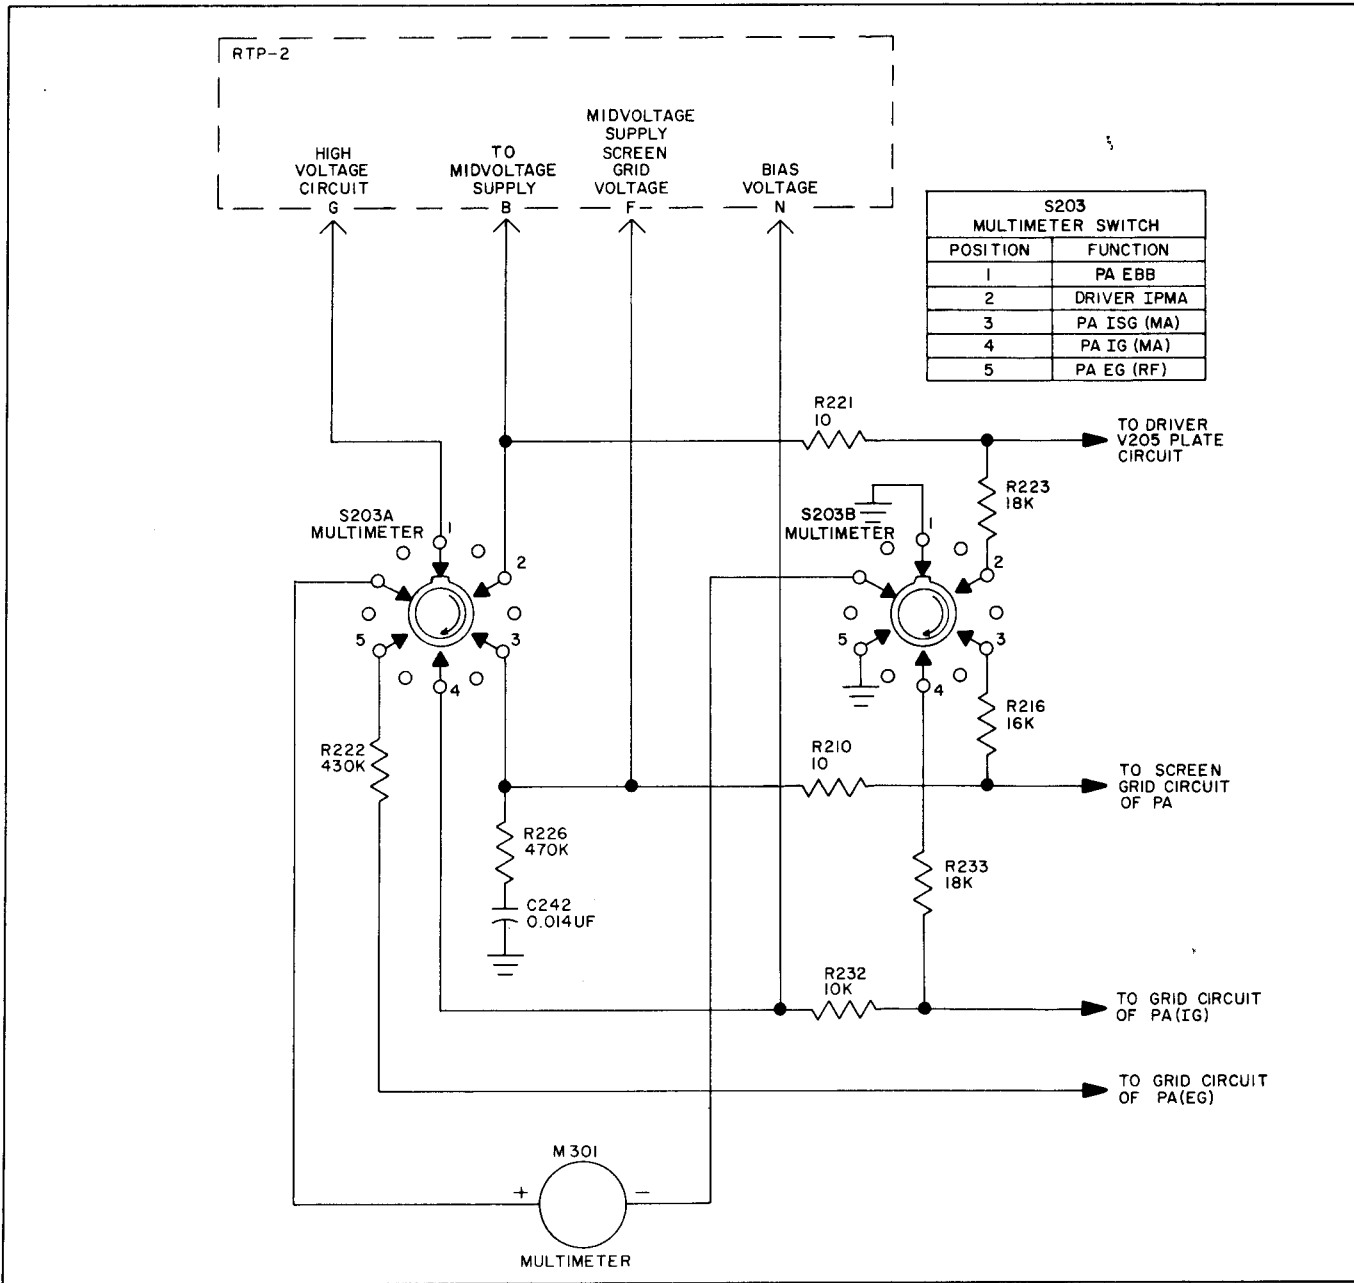

Figure 4-11. Metering Circuit, Simplified Schematic Diagram
(14) METERING CIRCUIT. - Meter M301, depending upon the position of switch S203, measures PA Ebb, driver (V205) Ip, PA Isg, and PA Eg rf volts. (See figure 4-11.)